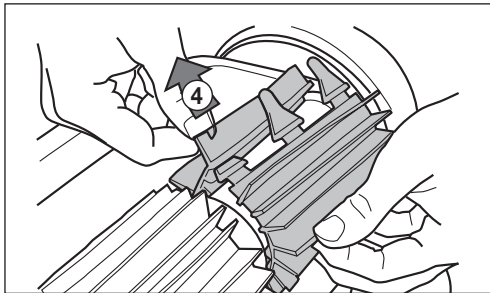

Figure 21. Pull Tabs Through Each Slot
4. Thread each tab into the slot provided and gently feed it through until the heel comes out at the other side of the slot. See Figure 21.